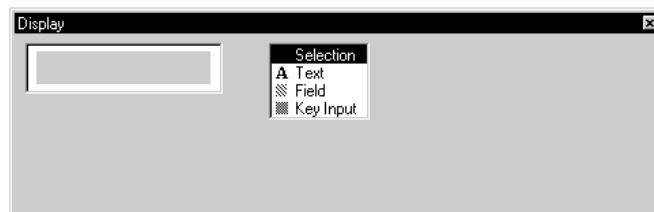

Figure 4-23 Display Window
25. The **Display** window opens (Figure 4-23).